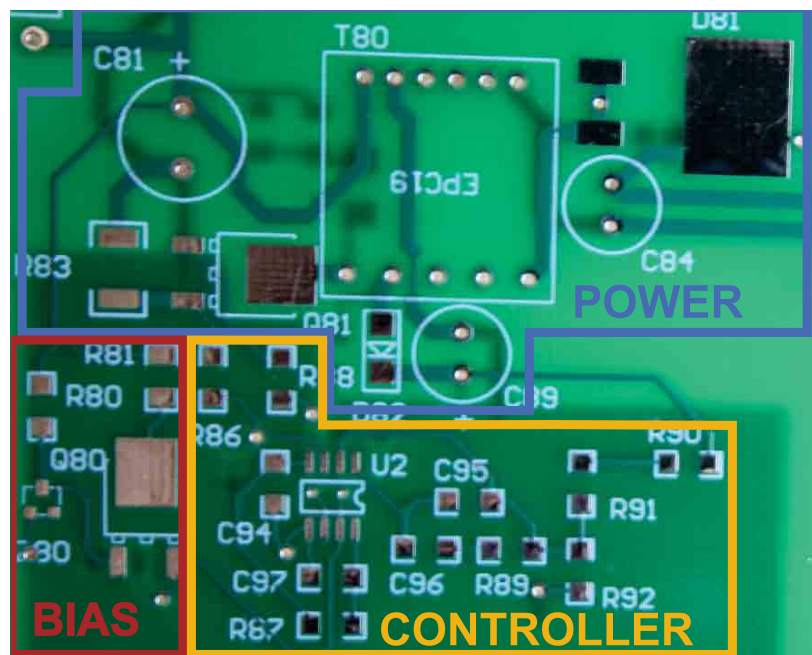

Figure 3: PC board layout of the flyback converter ready for parts population and testing.
**Figure 3** shows a photograph of the double-sided PCB designed for the flyback power supply. Notice that good partitioning of the control, bias, and power stage are maintained on the PCB, and this helps you work on the board later and to achieve good layout.